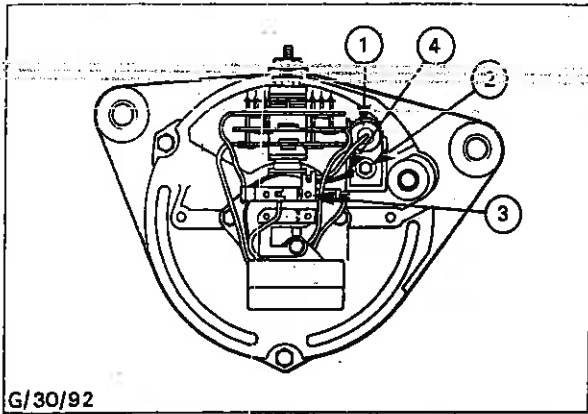

Fig. 49 - Replacing Surge Diode
5. Replace surge diode (1) and secure with screw (2). Secure the surge diode lead with screw (3), then connect regulator lead (4) - see Fig. 49.